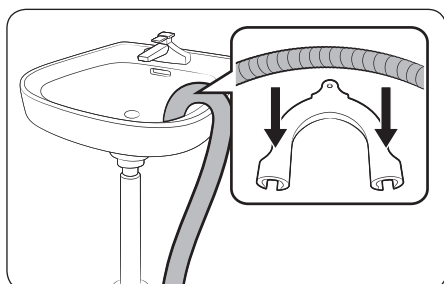

Fig.8
- Hook the hose guide over the side or stand pipe (Fig.8).